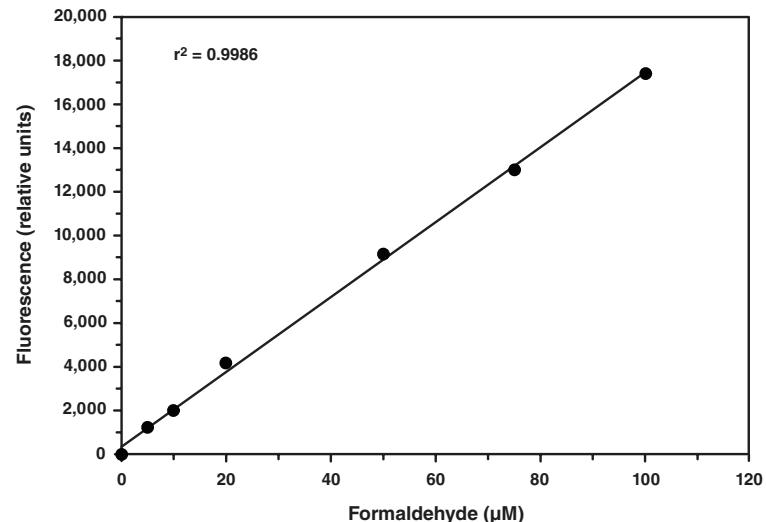

Figure 3. Typical formaldehyde standard curve
3. Determine the average fluorescence of the standards. Subtract the fluorescence value of the standard A from itself and all other standards. This is the corrected fluorescence (CF).
4. Plot the corrected fluorescence values (from step 3 above) of each standard as a function of the final concentration of formaldehyde from Table 1. See Figure 3, on page 15, for a typical standard curve.